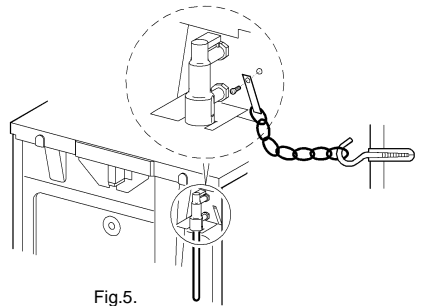

Fig.5.
4. The stability chain anchor point on the appliance is shown in the diagram Fig. 5.